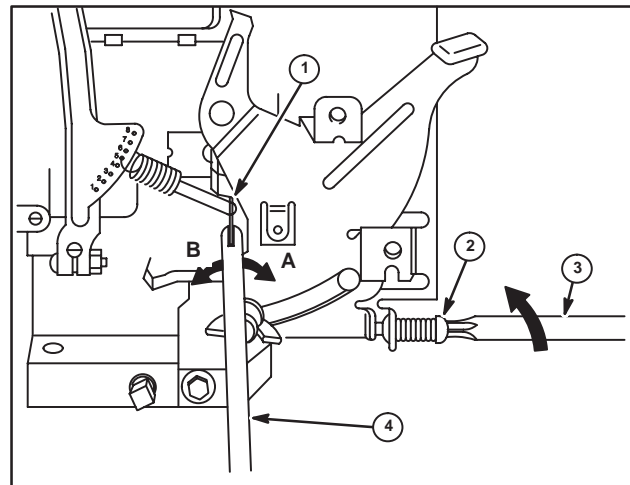

Fig. 23
4. First adjustment: bend spring anchor tang (1), Fig. 23, using Tang Bender Tool #19229 (4), to 100 to 200 RPM above specified speed, See Table No. 4, Page 28, Table No. 5, Page 28 and Table No. 6, Page 28, Specifications.
5. Second adjustment: use Torx® driver (3) to turn TOP NO LOAD RPM screw (2) clockwise until specified speed is obtained, Fig. 23.
3. If tab on lever is touching head of TOP NO LOAD RPM adjusting screw (2), back out screw until tab no longer touches screw when control lever is in maximum RPM position, Fig. 23.
4. Bend spring anchor tang (1) using Tang Bender-Tool #19229 (4), to 3300 for 50 cycle or 3800 for 60 cycle.